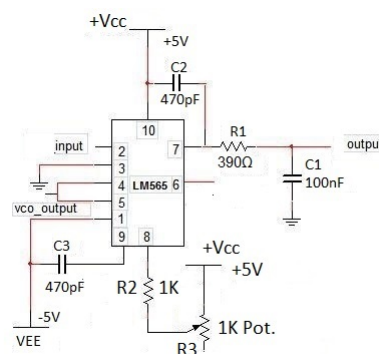

Figure 2: Phase Locked Loop
1. Connect the circuit as shown in *Figure2*. Now adjust the potentiometer R_3 to get the free running of $200KHz$ which is given by